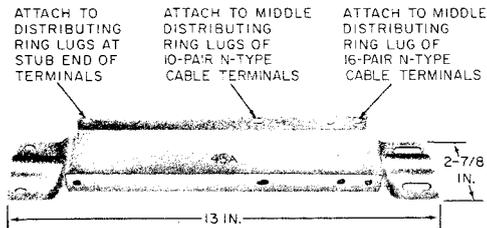

Fig. 22—45A Mounting Bracket
† These terminals may be adapted for mounting on poles or walls by means of a 45A bracket (Fig. 22).
4.04 Mounting the 10- and 16-pair N-type cable terminals on poles requires the use of the 45A bracket (Fig. 22) which must be ordered separately.
- (2) Before mounting the terminal on the bracket, remove the distributing rings and return to stock as piece parts for future use. Tap the wiring ring holes using the No. 10 3/4-inch long self-tapping screws furnished with the 45A bracket. See Fig. 22 to determine the required wiring ring holes for tapping. This operation can be done more conveniently on the ground prior to climbing a pole.
5.02 Mounting the 10- and 16-pair N-type cable terminals on walls requires the use of the 45A bracket (Fig. 22) which must be ordered separately.
(2) Before mounting the terminal on the bracket, remove the distributing rings and return to stock as piece parts for future use. Tap the wiring ring holes using the No. 10 3/4-inch long self-tapping screws furnished with the 45A bracket. See Fig. 22 to determine the required wiring ring holes for tapping.